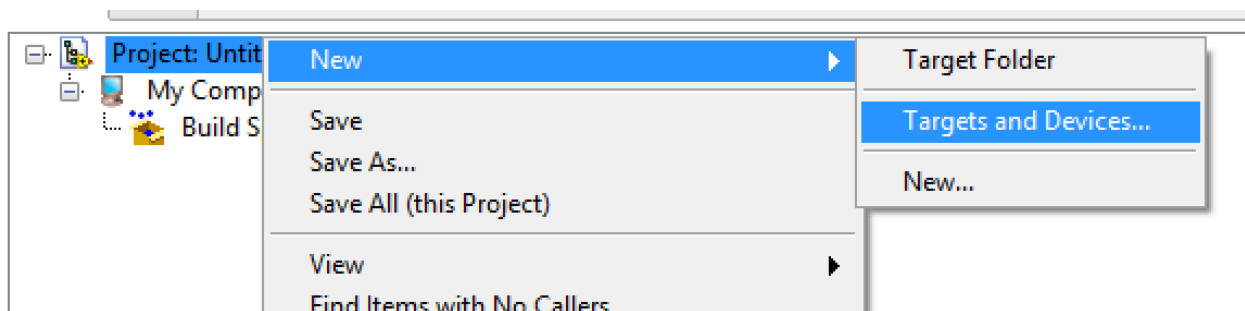

Figure 1: Adding targets
3. Right-click on the myRIO target and create a new VI there: this will cause the VI to run on your myRIO and not on the host desktop computer. In this VI, construct the LabVIEW code in Figure 1. On the structures pallet, select the flat frame sequence. In a flat frame sequence, all data to one of the frames must be ready before LabVIEW begins executing the subsequent frame. This structure is useful for programs that need initialization (actions that take place before the frame executes) and closing actions (actions that take place after the frame executes).